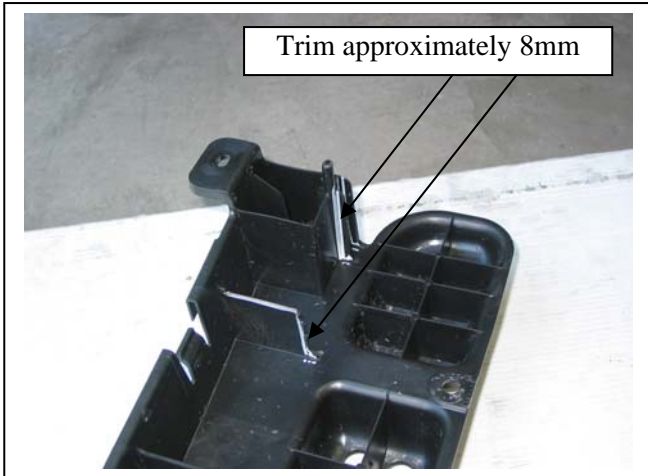

Figure 5 – Passenger side shown.
16. Trim plastic bumper cover support approximately 8mm to fit over steel mounting brackets on cross member as per **figure 5**.